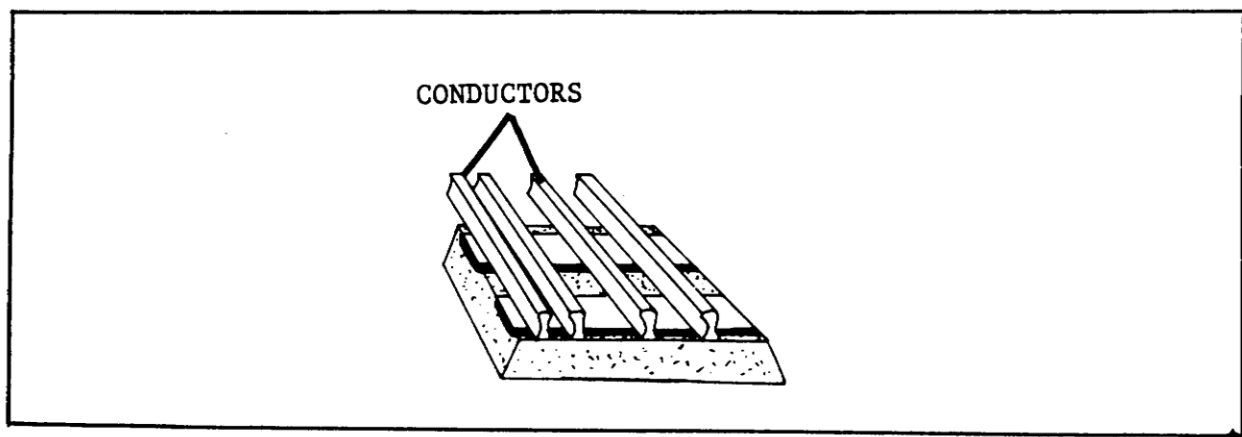

Figure 1-23. 4-Rail System.
c. 4-rail system. In this system, a fourth rail is added and current is returned through it (Figure 1-23).